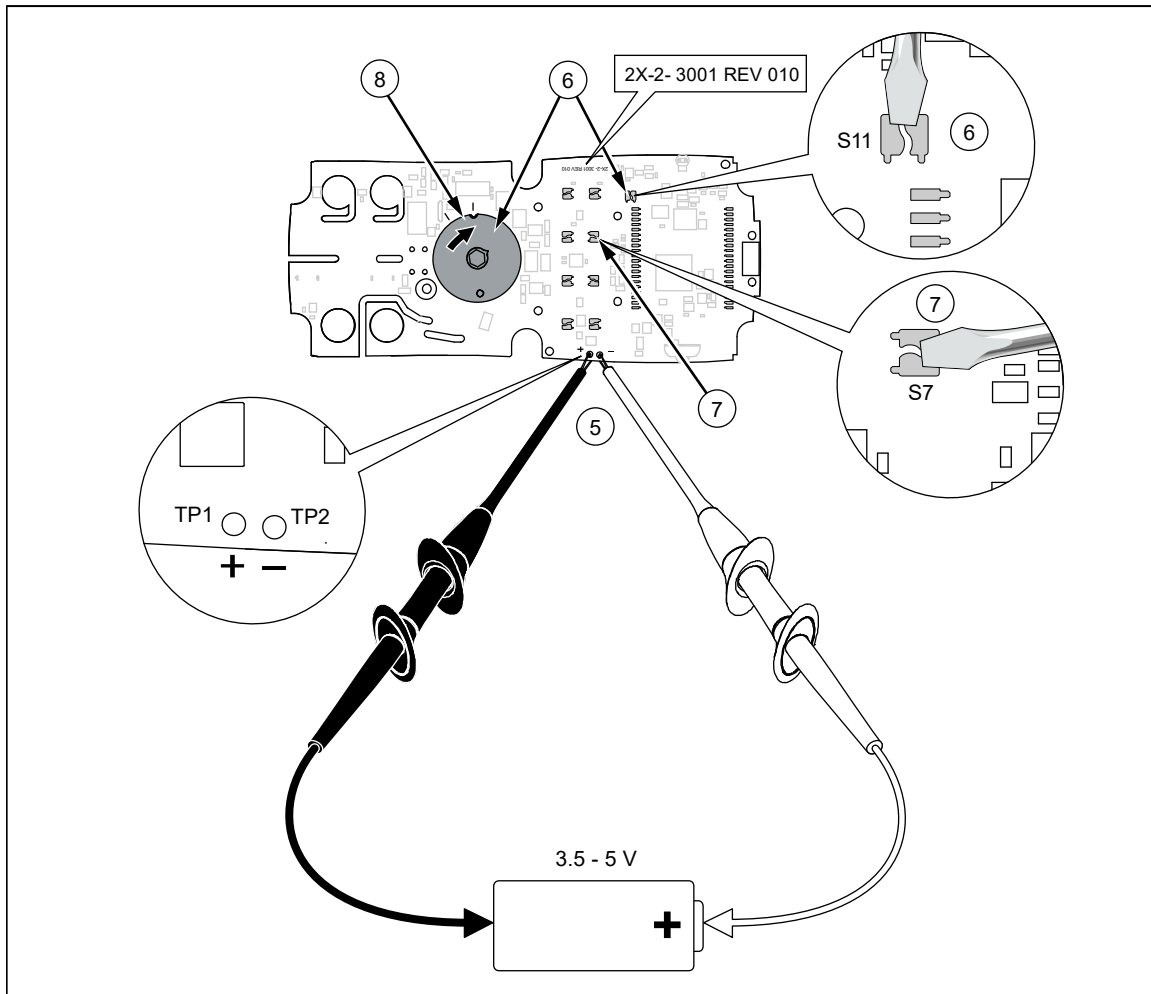

Figure 3. Revision 010 Board Layout
3. Check the revision number on the PCB. Board revision location is identified in Figures 3 and 4 below.
5. Apply power to the PCB by clipping on a dc voltage between 3.5 V and 5 V at the test points marked "+" and "-" at the edge of the board. See Figure 3.
6. While shorting across keypad button S7, turn the rotary switch one position clockwise. See Figure 3.
7. Short across keypad button S11. See Figure 3.